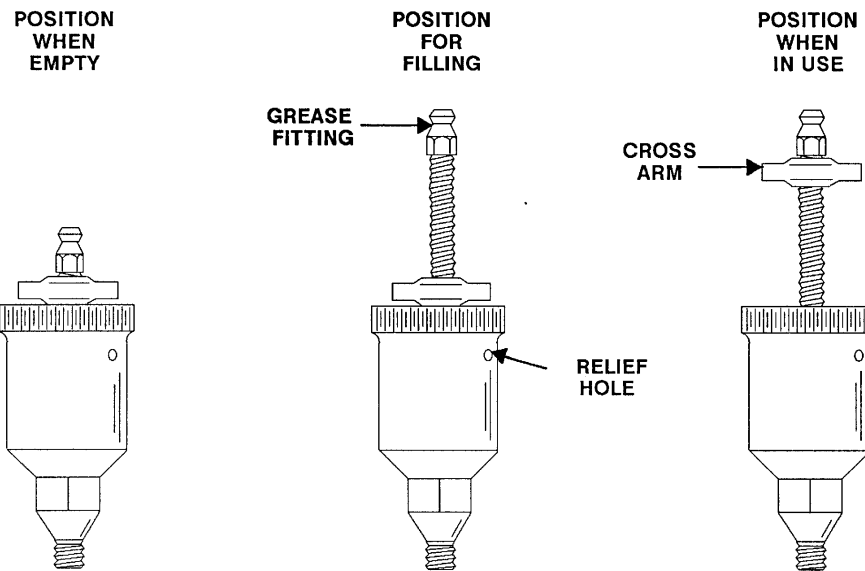

Figure 5. Automatic Lubricating Grease Cup
Fill the grease cup (17) through the grease fitting with No. 2 lithium base grease until grease escapes from the relief hole. Turn the grease cup arm counter-clockwise until it is at the top of the stem; this will release the spring to apply grease to the seal (see Figure 5).